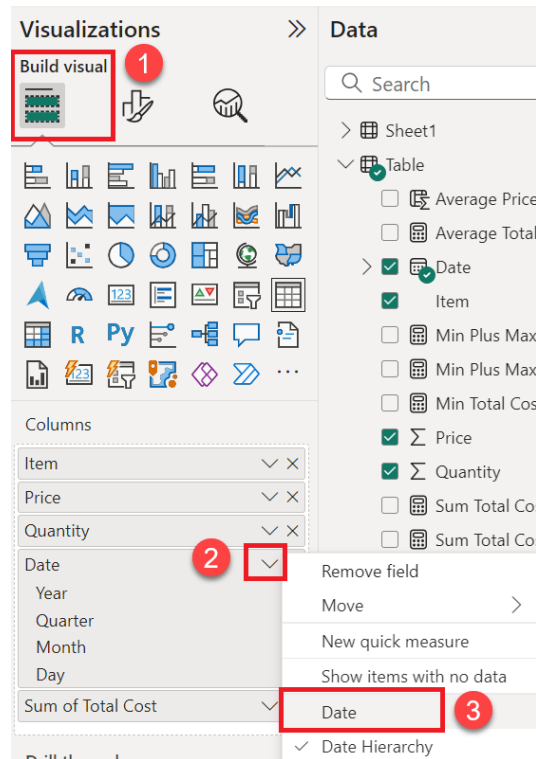

Figure 2.3: Setting a visual's column to Date instead of Date Hierarchy.
4. Set the **Date** column to display just the **Date** instead of the **Date Hierarchy** as shown in *Figure 2.3*: